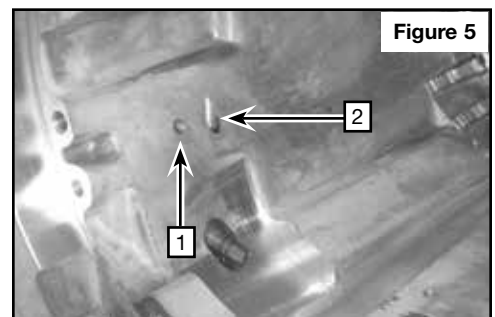

Figure 5
- When air checking during overhaul (and pump removed), check for leaks of 3rd clutch oil at the OE 3rd accumulator checkball capsule (No. 2 in **Figure 5**).
- No. 1 in **Figure 5** is orifice to spray lube oil onto 2-4 band. Some leakage here is normal.